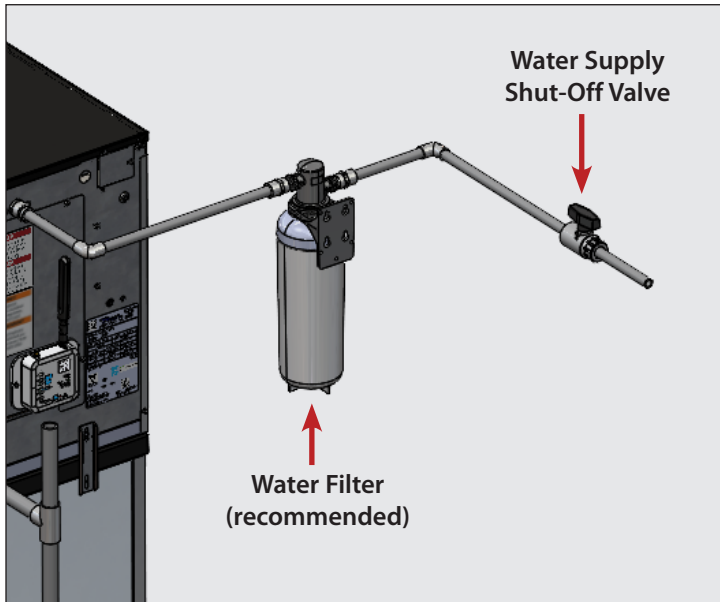

Fig. 1. Shut-off valve installed before the water filter.
1. If a water filter is present, install the water supply shut-off valve before the water filter. See fig. 1.